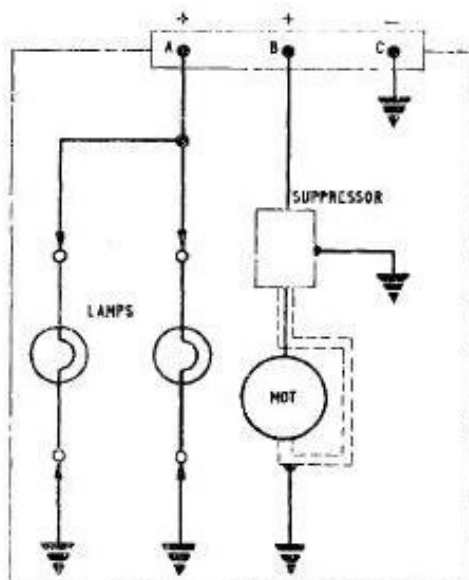

Fig. 1. Circuit diagram
1. The anti-collision lamp, Type G7740-24, is similar to that described in the main chapter but has no mounting flange fitted. The lamp is normally installed in a cylindrical mounting tube, which is incorporated in the airframe structure. The lamp is secured within the tube by three screws and stiff-nuts; access to the nuts, for removal of the lamp, is gained by first removing the lamp lens. Connection to the lamp is made by means of a three pole plug A.N. 3102A-10SL-3P mounted on the base of the mechanism cover. A circuit diagram is given in fig. 1.